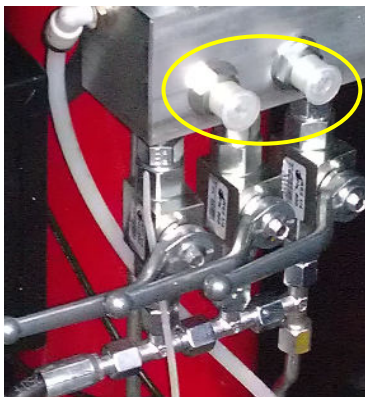

Fig. 5 – Hydraulic Connection
- 13) Connect the hydraulic lines to the block connections inside the control unit, **Fig. 5**.